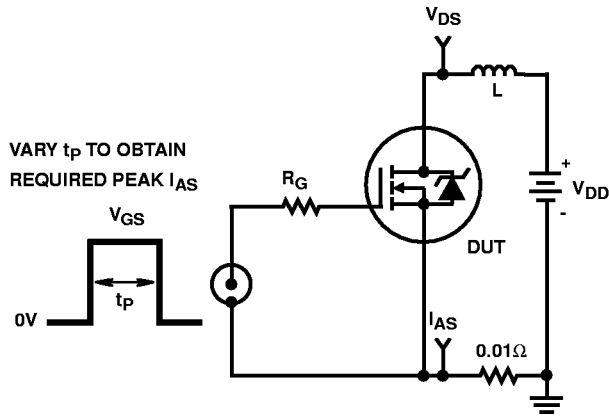

FIGURE 15. UNCLAMPED ENERGY TEST CIRCUIT
4. $V_{DD} = 50\text{V}$, starting $T_J = 25^\circ\text{C}$, $L = 3.37\text{mH}$, $R_G = 25\Omega$, peak $I_{AS} = 18\text{A}$. (Figures 15, 16).